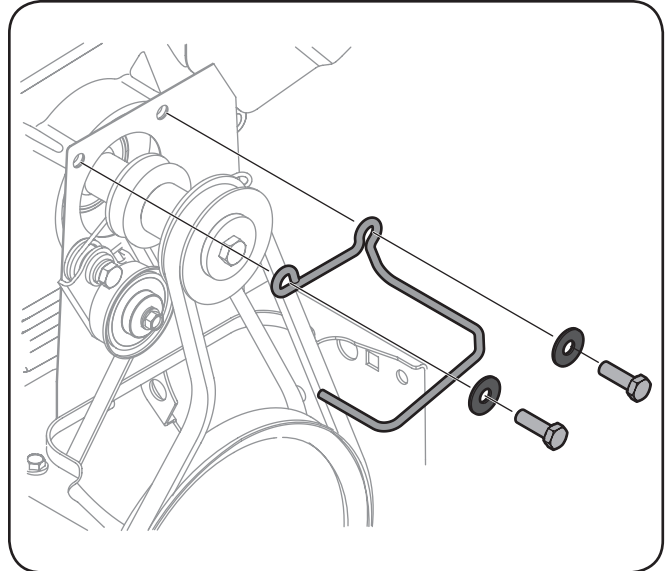

Figure 7-2
3. Loosen and remove the two bolts and flat washers securing the belt guide. See Figure 7-2. Remove belt guide.